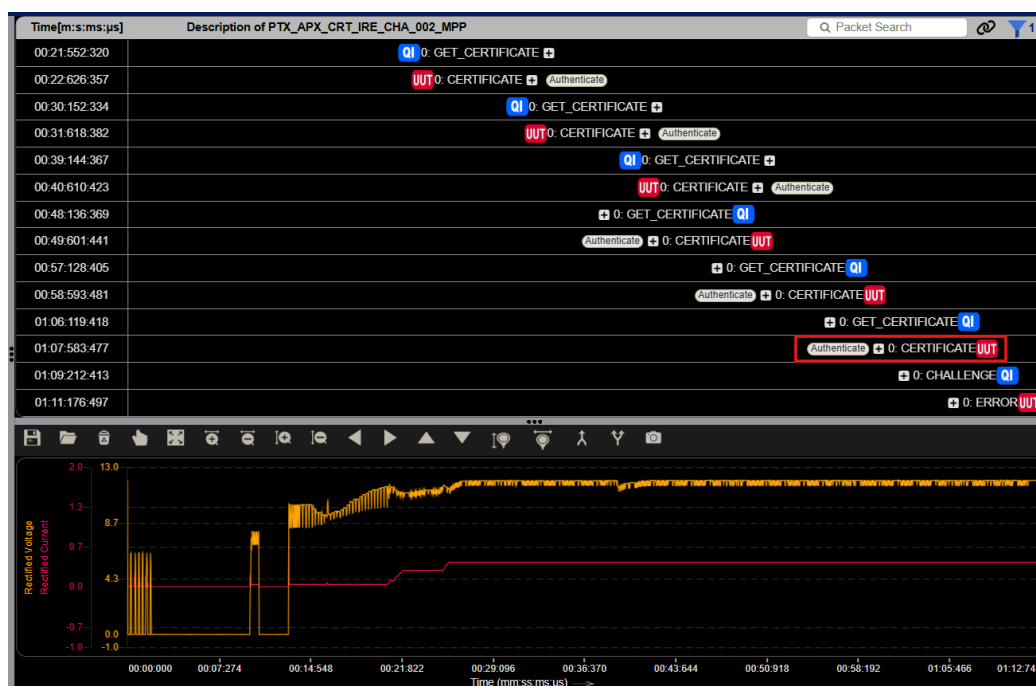

FIGURE 8.123: CLICK ON AUTHENTICATE BUTTON
4. Click on the **Authenticate** button beside the last certificate sent by the PTx as shown in the example in Figure 8.123 below.